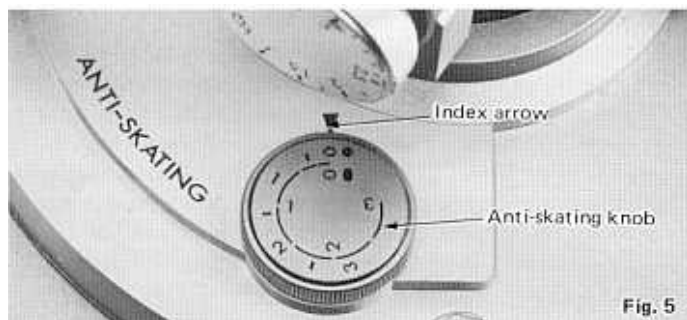

Fig. 5
1. Turn the anti-skating knob until the "0" mark is aligned with the index arrow. (See Fig. 5)